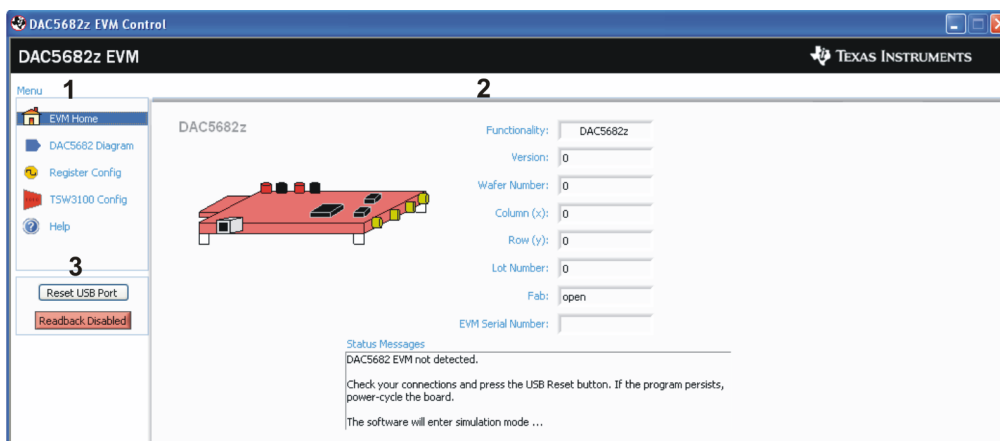

Figure 13. EVM Home Displaying EVM Status Settings
Figure 13 through Figure 16 displays some of the Menu software areas.
- **Menu**—switches between the major functionality listed in Table 1 and displayed in Figure 13.
Note: The numbers on Figure 13 through Figure 16 correspond to the numbered graphical user interface subareas (**X**), described in each table for the DAC5682z EVM software functionality.